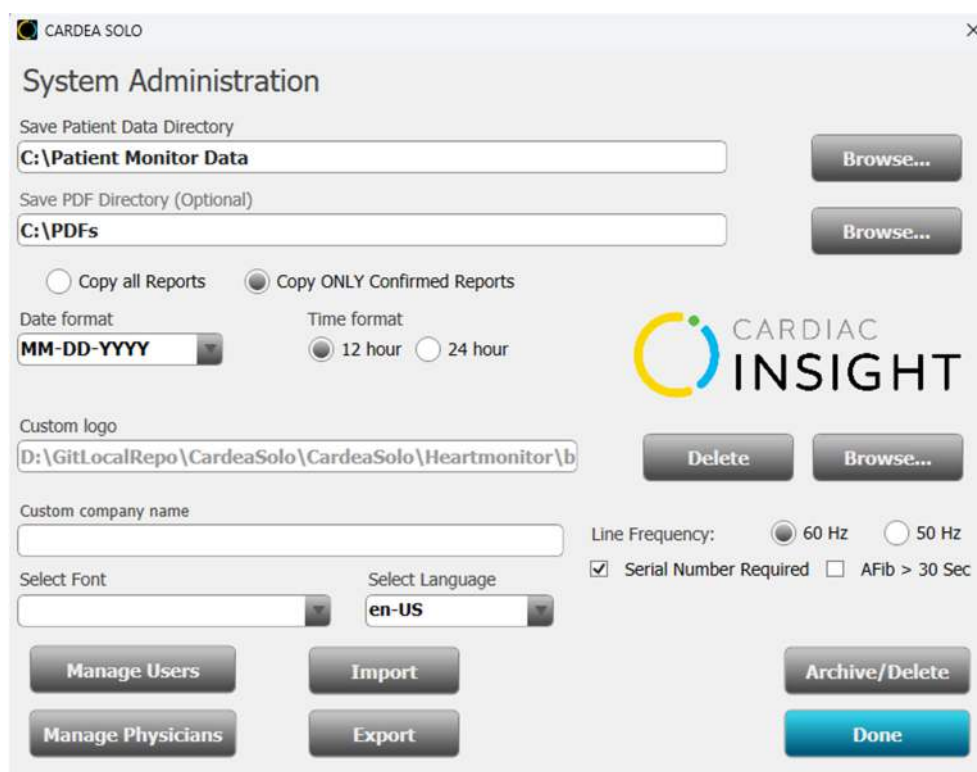

Figure 4.2. System Administration.
You may also add the institution’s logo to the reports. Click Browse and select a JPG or PNG formatted image. The image will be added to the screen in Figure 4.2, above the associated Browse button.
The next step to set up the System is the creation of User profiles. It may be desirable to have different characteristics for different users, perhaps reflecting the preferences of the associated doctor, or the clinic. At least one user must be created. Select the “Manage Users” button shown in Figure 4.2. The following screen will be displayed.
**Managing Location.** The clinic may be a part of a larger organization. For example, the Organization (Company Name, Figure 4.2) might be “Overlake Health System,” and the clinic might be “Eastlake Clinic.”
The Export button (see Figure 4.2) will export all of the System Administration settings to a file. This file can be used to quickly set-up additional **Cardea SOLO** systems, without having to re-enter all of the configuration elements. The exported file is a zipped / compressed folder.